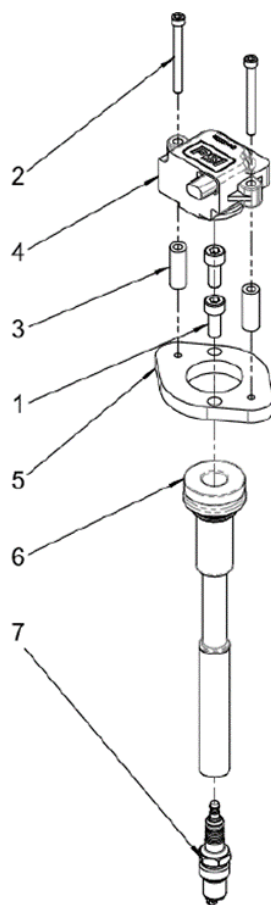

Figure 44. Ignition Coil Assembly
1. Remove the two bolts and spacers (Figure 44, Item 2 & 3) on the ignition coil (Figure 44, Item 4).
2. Remove the ignition coil and ignition coil boot (Figure 44, Item 4 & 5).
3. Remove the two bolts (Figure 44, Item 1) on the ignition coil bracket (Figure 44, Item 5).
4. Remove the ignition coil bracket (Figure 44, Item 5).
5. Remove the spark plug (Figure 44, Item 7).
2. Carefully insert and torque down the spark plug (Figure 44, Item 7) to 25 ft/lbs.
3. Apply dielectric grease (Permatex Dielectric grease #81150 or equivalent) to each coil (Figure 44, Item 6).
4. Install ignition coil bracket (Figure 44, Item 5) and torque down the two ignition coil bracket bolts (Figure 44, Item 1) to 17 ft-lbs.
5. Insert the coil boot (Figure 44, Item 6) into the spark plug tube (Figure 44, Item 7) and press firmly to ensure it fully seats on the spark plug, Install the ignition coil on top of the boot.
6. Insert the ignition coil bolts and spacers (Figure 44, Items 2 & 3) and torque down the bolts to 80 in-lbs.